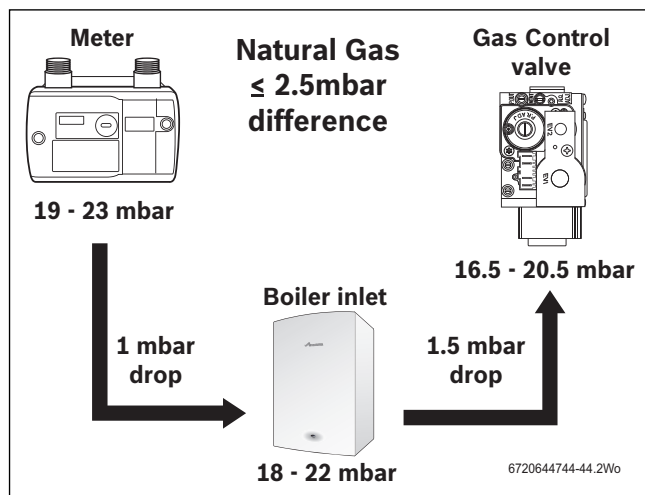

Fig. 54 Natural gas pressures
- Press the Performance test button (J) for more than ten seconds and set Central Heating temperature to maximum.
- The Performance test button (J) will illuminate continually and the display (C) will alternate between  and the central heating flow temperature.
- ▶ Check the gas supply working pressure at the gas valve conforms to values shown in Fig. 54 or Fig. 55.
If the pressure drops are greater than shown in figure 54, then this would indicate a problem with the pipe work or connections within the system.